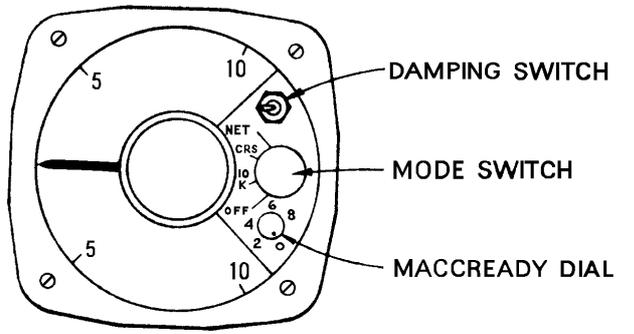

FIG 2.
6. The principle of this type of variometer (Fig 2) is that air flowing to and from capacity is directed against the horizontally mounted vane, causing a deflection which will indicate a rate of climb or sink on a linear scale. Two calibrated tapered slots leak an increasing flow of air as the vane deflects further, until eventually the vane is balanced in a particular position for a given rate of climb or sink.